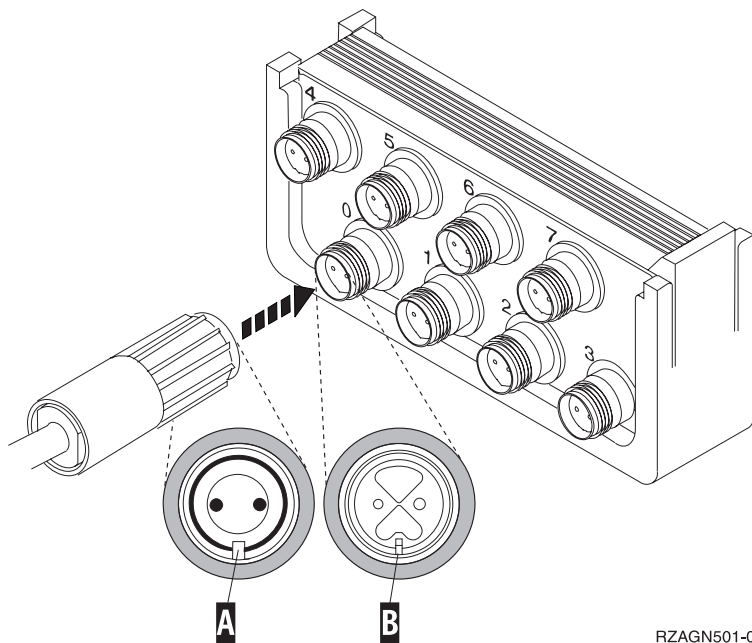

Figure 3. Where to Connect the System Unit Console Cable
- ___ 6. Align the key **B** in **port 0** on the 8-port Twinaxial cable connector with the slot **A** on the Twinaxial cable (Figure 3) attachment.